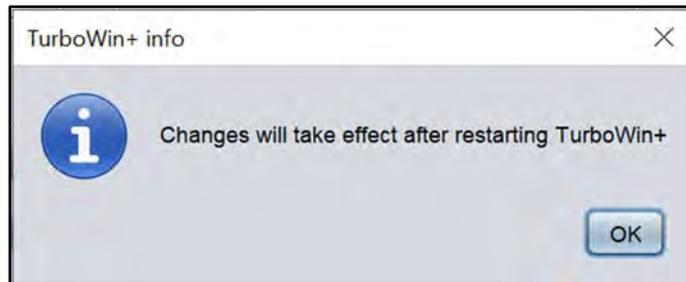

Figure 5: Changes will take effect after restarting Turbowin+
11. Once configured you will be prompted to restart TW+ for changes to take effect (Figure 5).